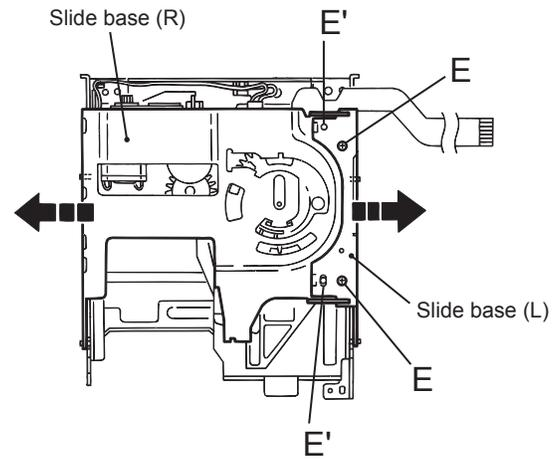

Fig.10
### 2.4.6.1 Removing the slide base (L) / (R) (See Fig.10)